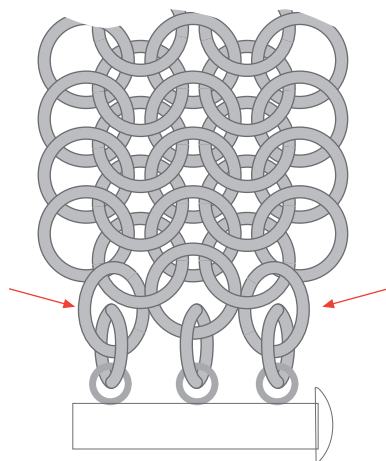
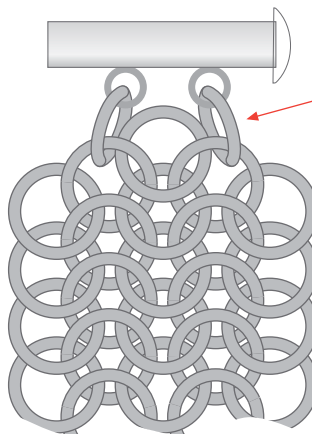

FIG. 12
FIG. 13
**European 4-in-1** The edge jump rings of the European 4-in-1 weave tend to be unstable because these jump rings are attached to the piece on only one side (FIG. 12). Therefore, I like to attach the clasp to the inner rows of the weave for greater stability (FIG. 13).